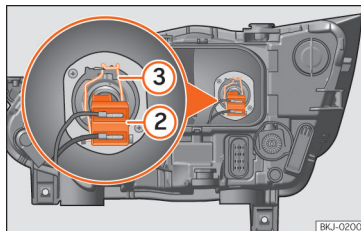

Fig. 54 In the engine compartment: dipped beam headlight bulb.
- Remove the bulb connector »» Fig. 54 ②.
- Unclip the retainer spring »» Fig. 54 ③ pressing inwards to the right.